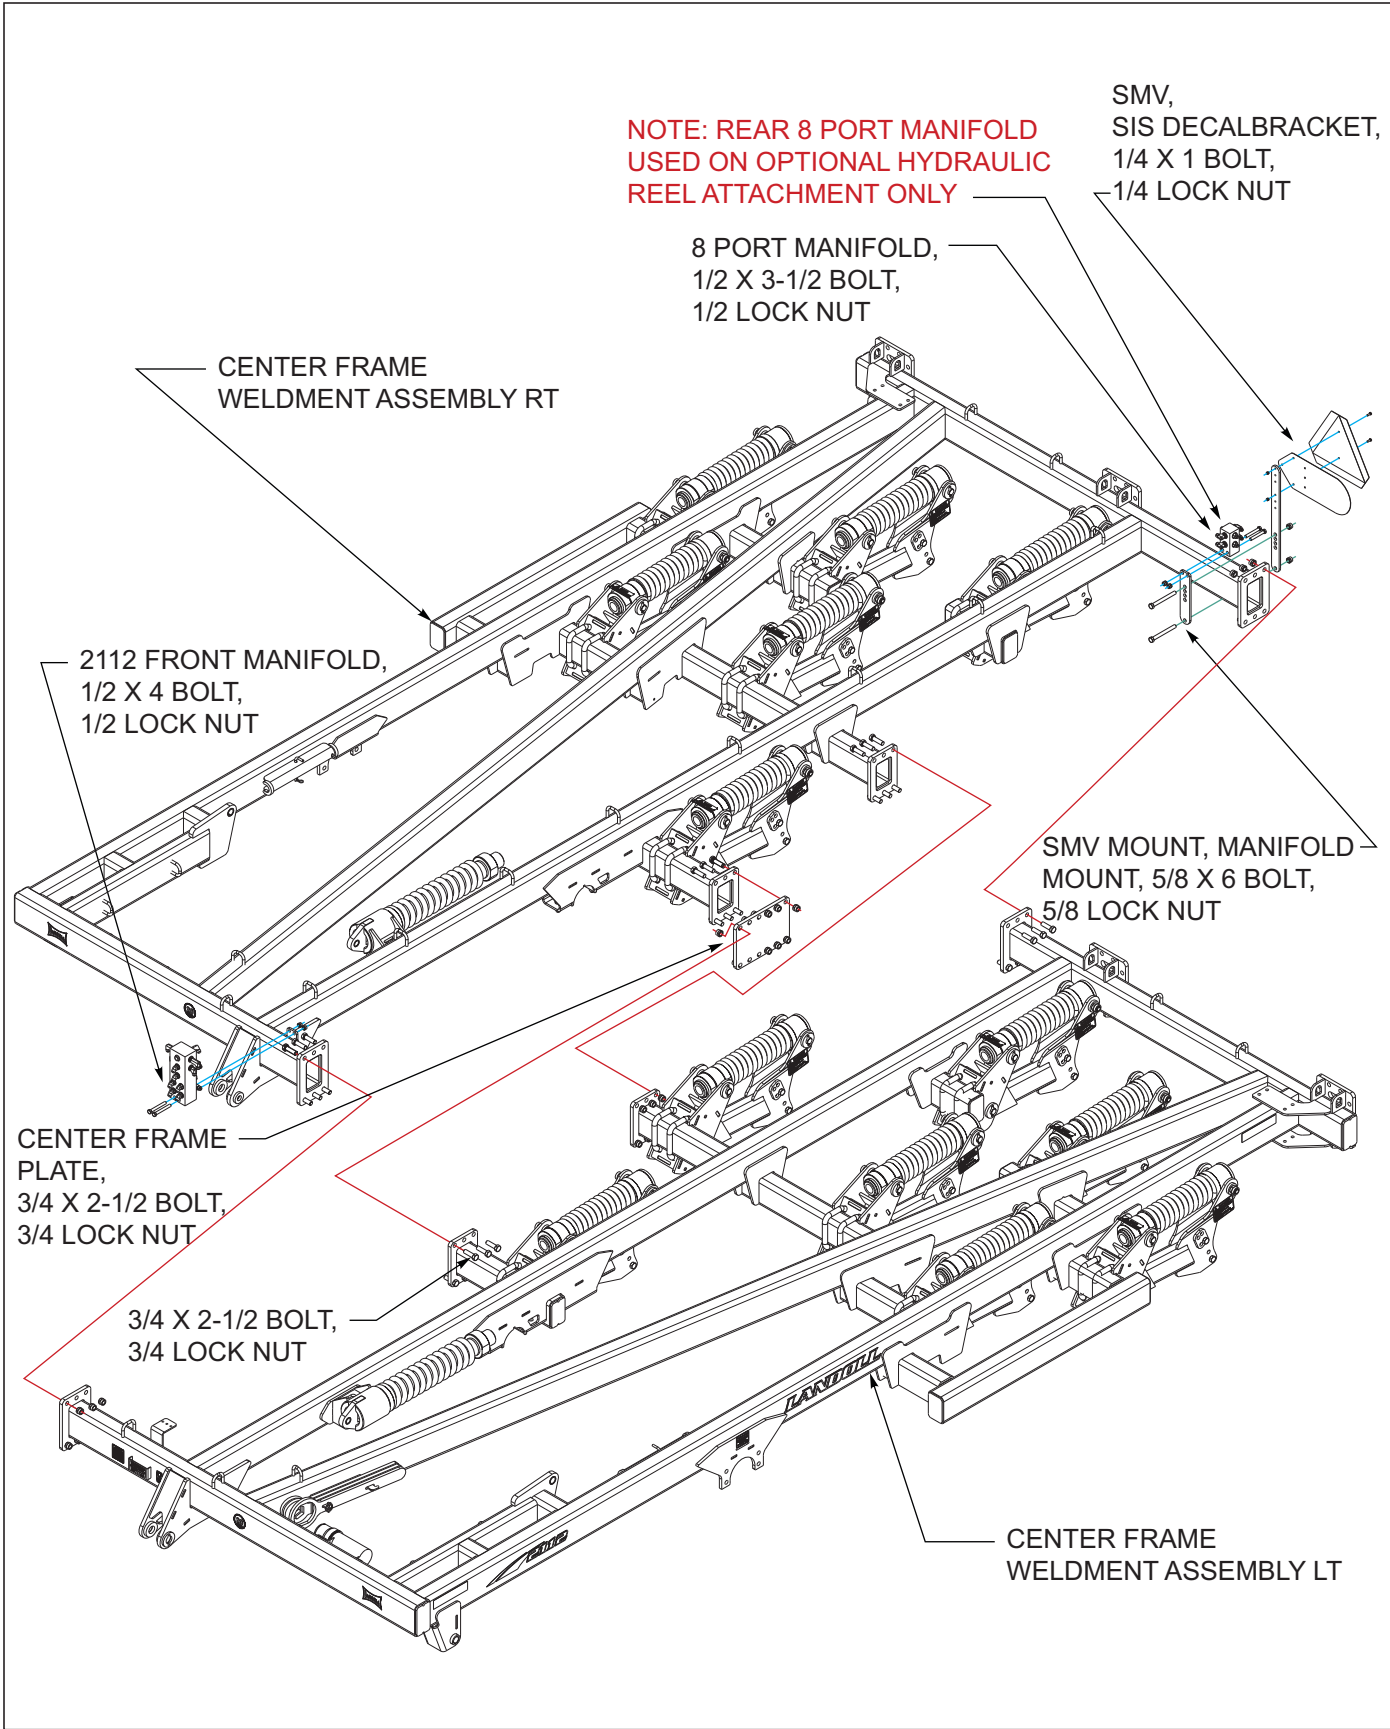

Figure 3-4: Center Frame Assembly 2112-13-15
1. Bolt the two center frame halves together using 3/4 x 2-1/2 bolts and 3/4 locknuts See Figure 3-4.
1. Bolt the two center frame halves together using 3/4 x 2-1/2 bolts and 3/4 locknuts *See Figure 3-4*.